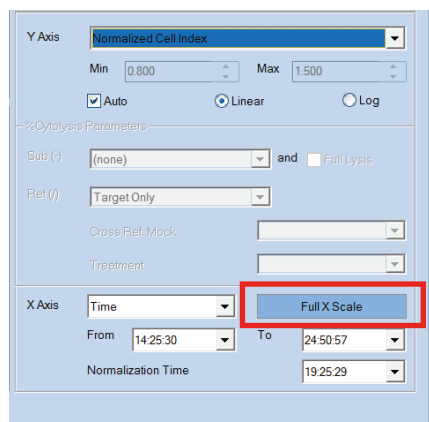

Figure 6. The **Full X Scale** button.
1. Click **Full X Scale** to again visualize the complete plot (Figure 6).